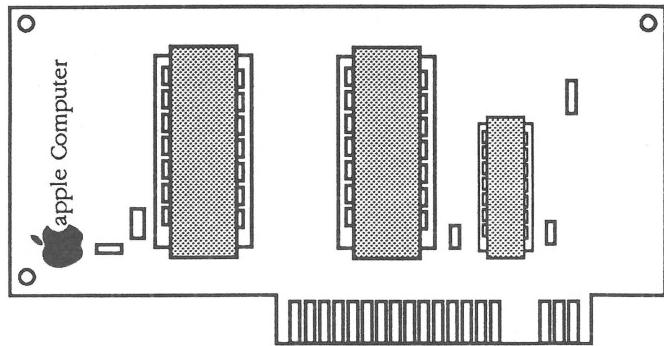

FIGURE 8
- IPL.11 Apple II Language Card (Figure 8)
APPLE II LANGUAGE CARD (Figure 8)